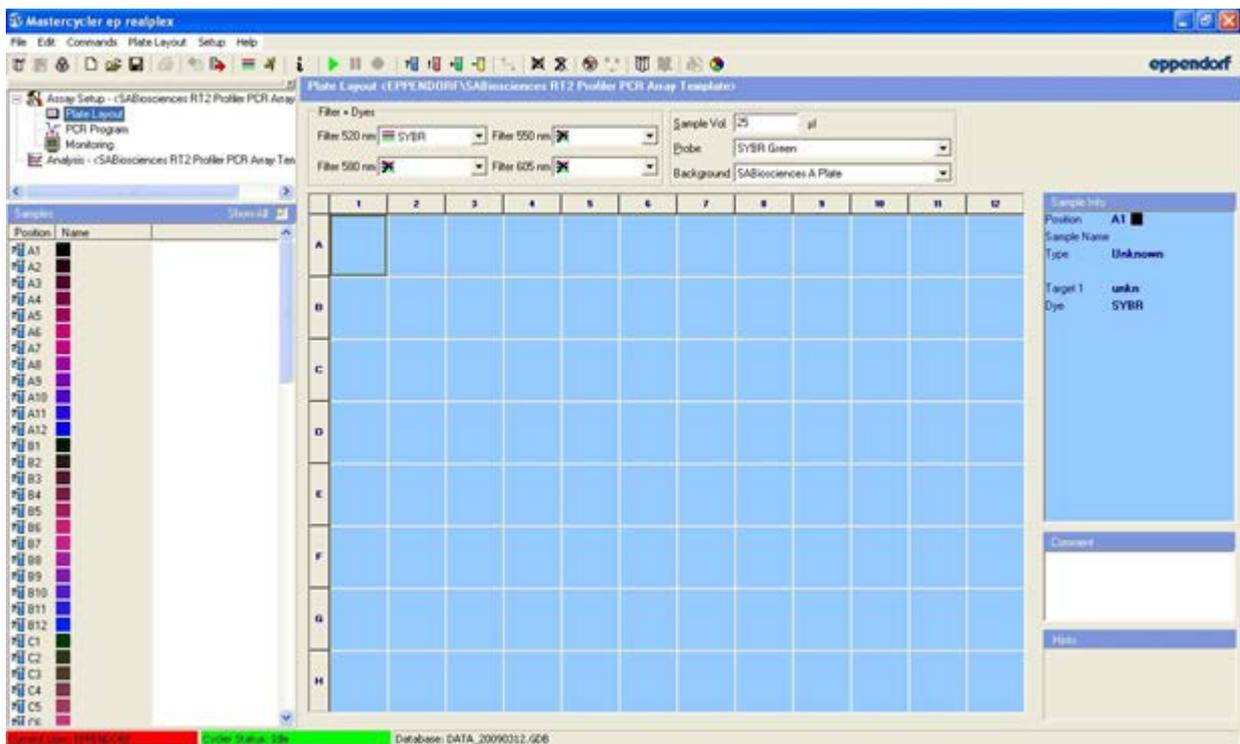

Figure 3. Complete plate layout window.
7. Select all wells, then right-click in the blue area and select "Unknown" to complete plate layout (Figure 3)